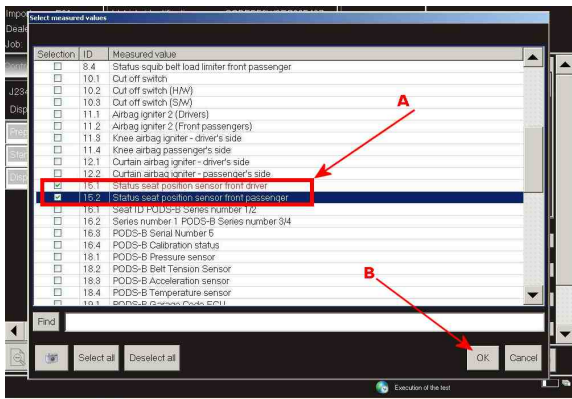

Figure 37
- Referring to Figure 37 (Point A) - Select **15.1 Status seat position sensor front driver** and **15.2 Status seat position sensor front passenger**